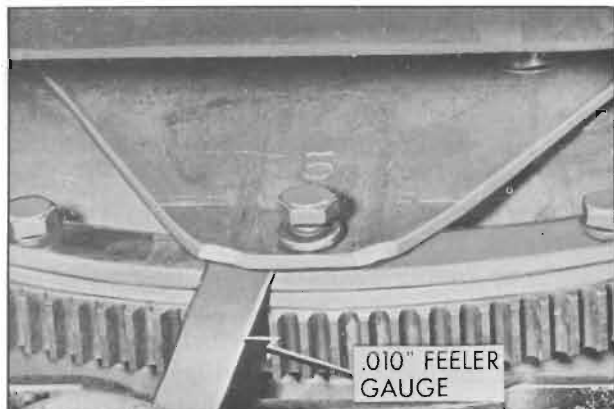

Figure 2-45—Checking Contact Between Pump Cover and Flywheel
1. Loosen one flywheel attaching bolt and check contact between flywheel leg and converter pump cover. A .010" feeler gauge should slip between flywheel and cover with slight drag. See figure 2-45.